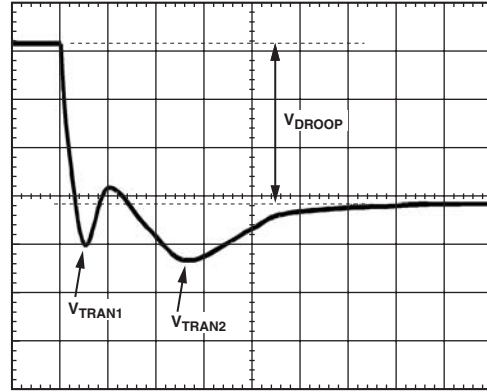
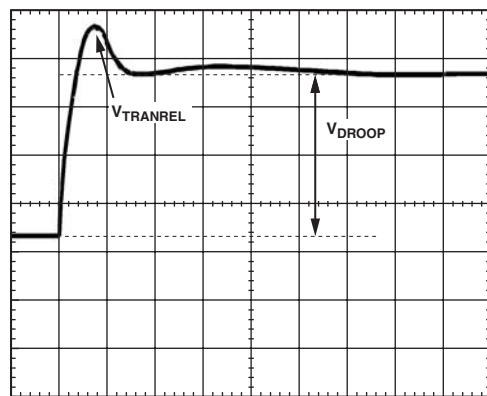

Figure 9. Transient Setting Waveform
Figure 10. Transient Setting Waveform
19. With dynamic load still set at maximum step size, expand scope time scale to see 2 μ s/div to 5 μ s/div. The waveform may have two overshoots and one minor undershoot (see Figure 9). Here, V_{DROOP} is the final desired value.
21. For load release (see Figure 10), if $V_{TRANREL}$ is larger than V_{TRAN1} (see Figure 9), there is not enough output capacitance. You will either need more capacitance or have to make the inductor values smaller. (If you change inductors, you will need to start the design over using the spreadsheet and this tuning procedure.)